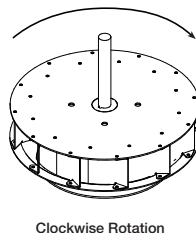

Figure 8
4. Check wheel rotation (viewing from the shaft side) by momentarily energizing the unit. Rotation should be clockwise as shown in Figure 8 and correspond to rotation decal on the unit.
3. Start the fan and shut it off immediately to check rotation of the wheel with directional arrow in the motor compartment, see Figure 8.